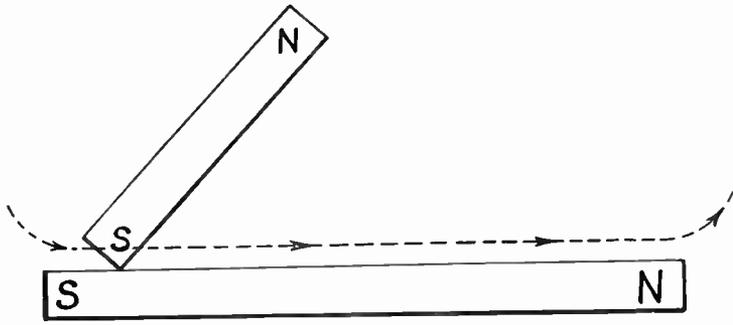
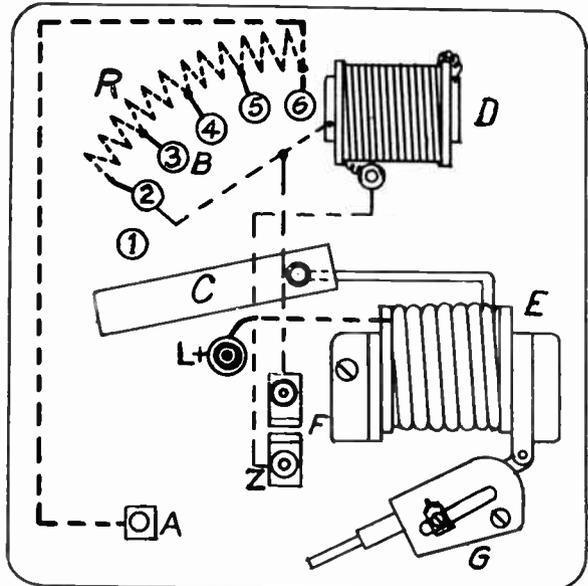

Fig. 2.—RE-MAGNETISING A BAR MAGNET.
Fig. 3.—CONNECTIONS OF STARTER SHOWN IN FIG. 2. The starting resistances are denoted by R.
Straight magnets of rectangular or round section, or the curved bar magnets used in certain electric clocks, may be re-magnetised without difficulty, by the aid of another magnet, or other magnets, in the manner illustrated in Fig. 2.
Another method of magnetising, or re-magnetising, a bar magnet is illustrated in Fig. 3. In this case two stroking magnets *A* and *B* are used—one in each hand. They are held with their opposite poles abutting at the centre of the other magnet *C*, and are then moved outwards, *A* to the left and *B* to the right. They are then brought back in wide oval sweeps to the central position again. The poles of the magnet *C* are opposite to those of the stroking magnets at the points of leaving. The same rule for determining
Fig. 3.—ANOTHER METHOD OF RE-MAGNETISING A BAR MAGNET. In this case two strong permanent magnets are used. They are held with their opposite poles abutting at the centre of the other magnet and are then moved outwards.
Although horse-shoe magnets may be re-magnetised by stroking them with strong bar magnets in a similar manner to that shown in Fig. 2, it is now the practice to use a pair of electro-magnet coils for this purpose. If, however, bar magnets are used we may regard the horse-shoe magnet as a straight magnet (Fig. 2) and commence by stroking from the S. pole with the S. end of the stroking magnet, and leaving off at the N. pole end. The method shown in Fig. 3 may equally well be used, commencing at the top of the middle of the curved side of the magnet and stroking towards the two poles.
The internal connections of this starter are shown in Fig. 3. The chief items to be noted are: (1) the last, or "full-on" contact button (No. 6) is connected to terminal A; (2) the over-current release coil is connected between terminal L+ and the hub of the switch lever; (3) the under-voltage release coil is connected to the terminals B, Z, to which are fitted the short-circuiting contacts operated by the over-current release; (4) the end of the under-voltage coil which is connected to B is also connected to the first "live"